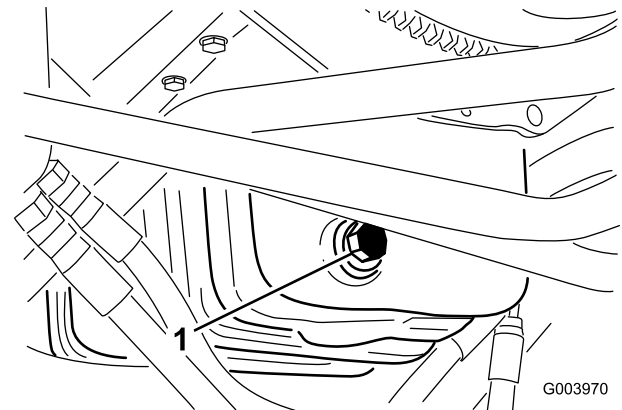

Figure 63
1. Remove the drain plug (Figure 63) and let the oil flow into a drain pan.